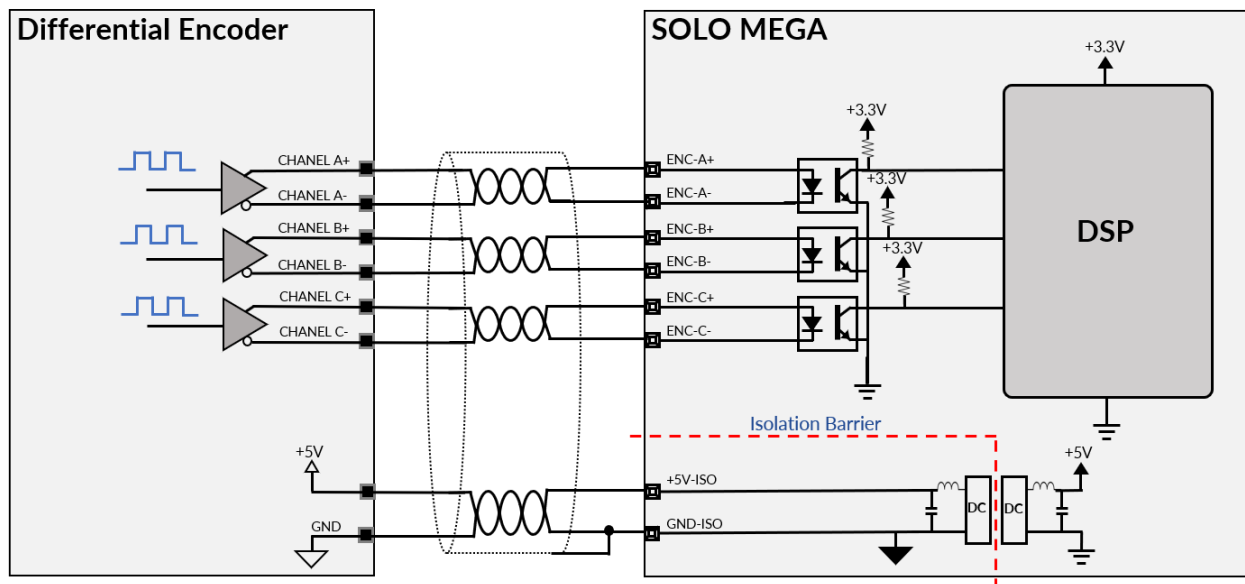

Figure 16 - Differential Incremental Encoder wiring in SOLO MEGA
As can be seen in Figure 16, positive outputs of Differential Encoder are connected to positive inputs of optocouplers and negative outputs of Differential Encoder are connected to negative inputs of optocouplers.
- It's highly recommended to wire positive and negative wires as twisted pairs as shown in Figure 16, it will reduce noise significantly.